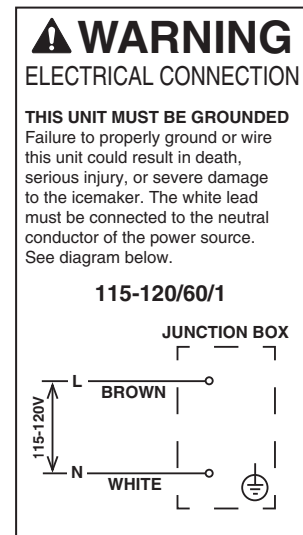

Fig. 3
- The white lead must be connected to the neutral conductor of the power source. **NOTICE! Miswiring may result in severe damage to the icemaker.** See Fig. 3.